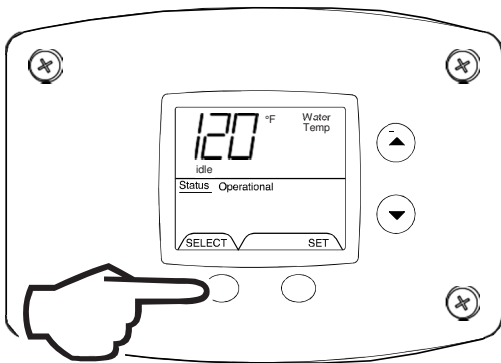

Fig. 47
- In Service Mode, Press the 'Select' button until 'WaterTemp' is displayed in the upper right section of the water heater display. For water heaters using two temperature sensors in the tank, this will be the average reading between the two sensors. For water heaters using a single sensor, this is the reading for the sensor (Fig. 47).